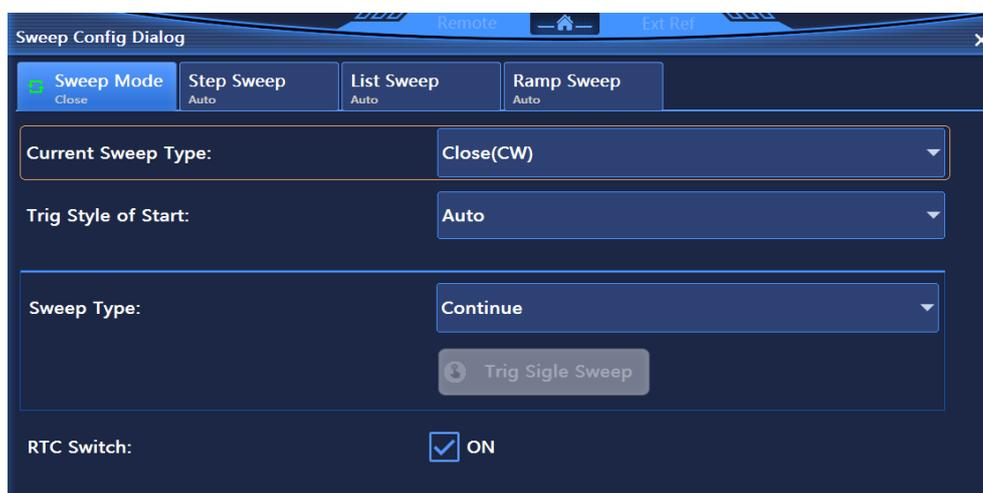

Figure 5.11 Sweep Mode Dialog
Sweep Mode Dialog, shown in Figure 5.11, enables you to set parameters such as Current Sweep Type, Trig Style of Start, Sweep Type and RTC Switch. Current Sweep Type includes Close (CW), Step Sweep, List Sweep and Ramp Sweep. Trig Style of Start includes Auto, Bus, Ext and Key. Sweep Type includes Continue and Single.